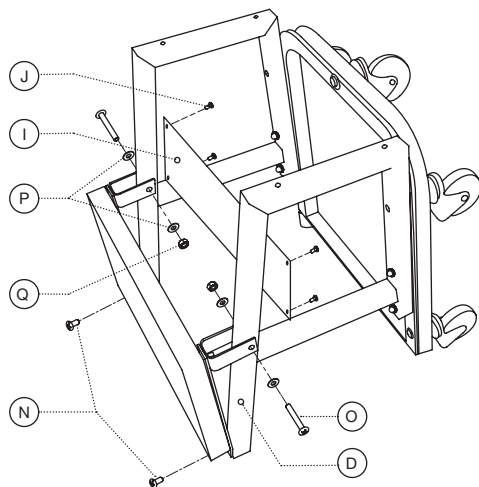

Figure 3 – Attaching Creeper Seat
3. Attach creeper Seat Cushion Assembly to creeper Side Frames (D) using two M6 x 40 Phillips Head Screws (O), with Washers (P), and Nuts (Q), and two M6 x 16 Phillips Head Screws (N). Then attach the Warning Plate (I) with four M6 x 12 Hex Head Bolts (J) (Fig. 3).